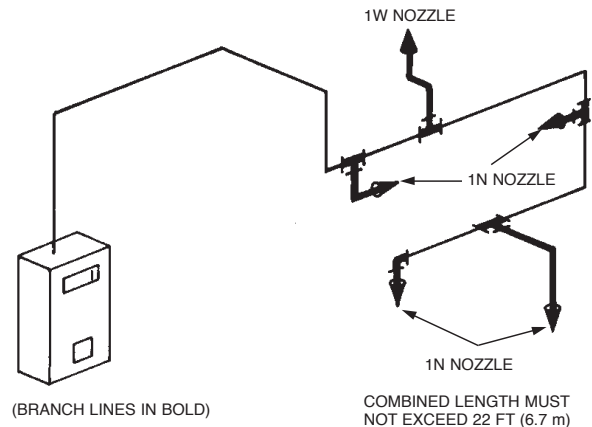

FIGURE 4-133
- 5. The combined length of all branch lines must not exceed 22 ft (6.7 m). See Figure 4-133.